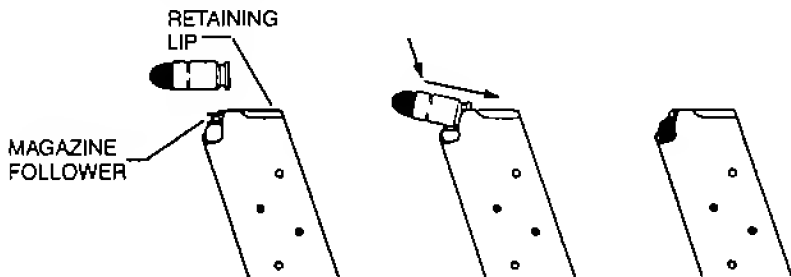

FIGURE 3 - LOADING MAGAZINE
- 3. With open end uppermost, grasp the magazine in one hand. Place a round on the magazine follower with the base of the round just forward of the retaining lips (see Figure 3). Press the round down and back until the base of the round touches the rear flat edge of the magazine.